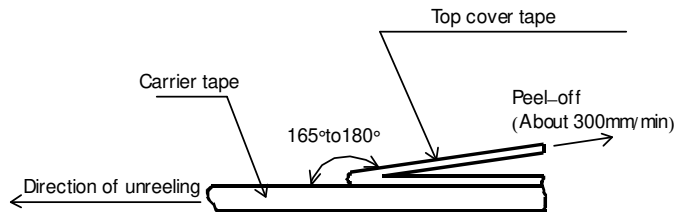
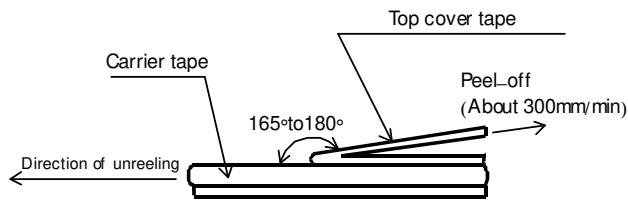
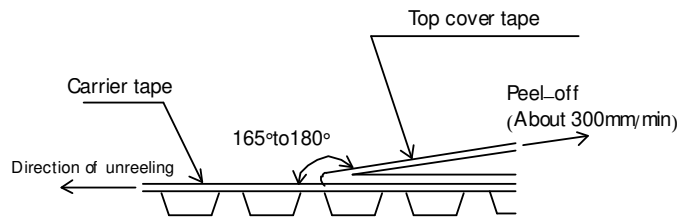

Figure-7
Figure-8
Figure-9
- 5). The peel strength of the top cover tape shall be with in 0.1N to 0.5N on the test method as shown in the following RMC06: Figure-7, RMC10, 16, 20, 32: Figure-8, RMC35,50,63: Figure-9.